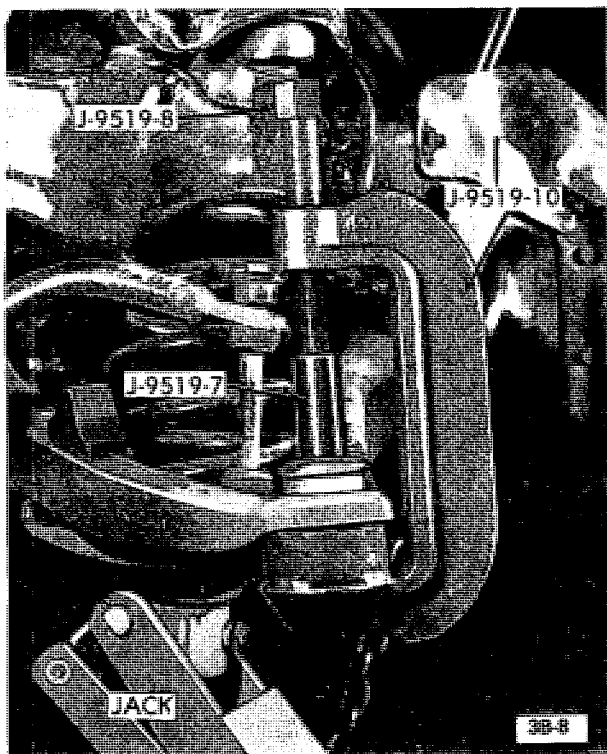

Figure 3B-7 - Lower Ball Joint Remover in Place
6. Install lower ball joint remover and installer as shown in Figure 3B-7. For H Series also use Tool J-9519-17.